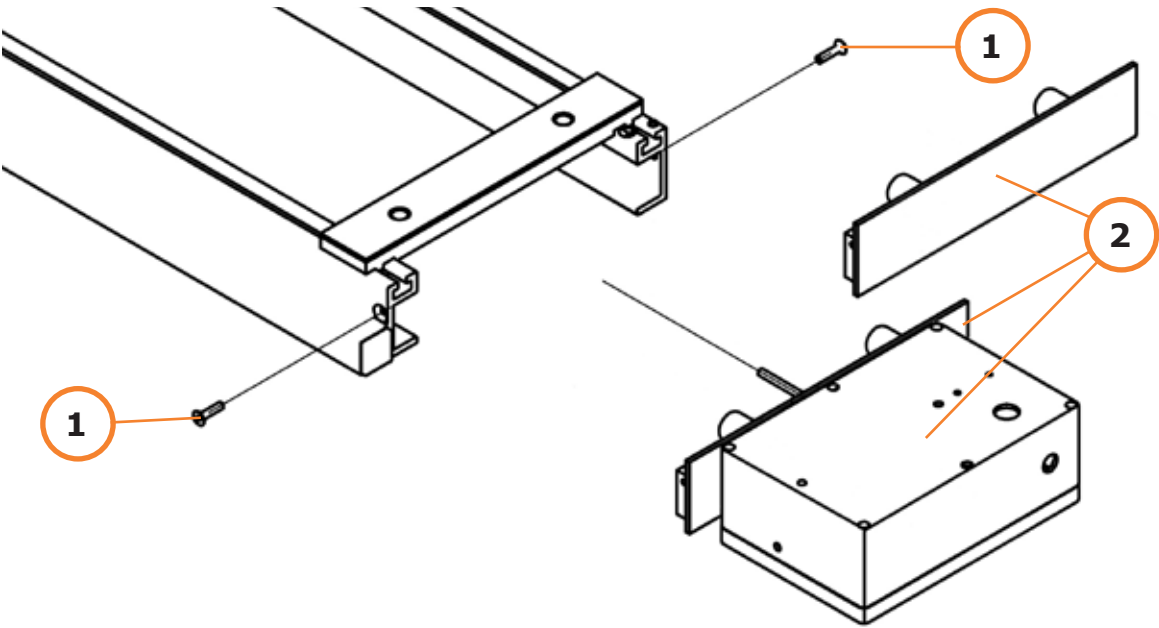

Fig. 4
- 4.2.1 Remove the mounted cable spooler or end plate (2/Fig.4) from the ceiling track by loosening the screws (1/Fig. 4) that secure it to the ceiling track.